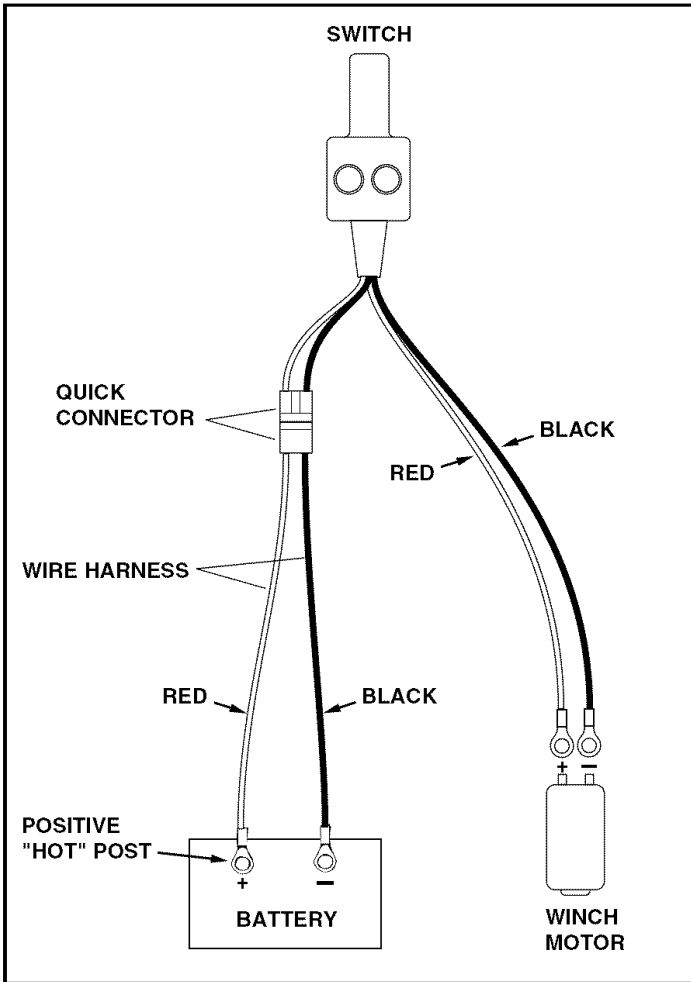

FIGURE 7
1. Connect the wires in the drawbar to the winch terminals, securing red to positive and black to negative. See figure 7.
3. Connect the wire harness to the vehicle battery. Secure the red wire to the positive terminal and the black wire to the negative terminal. See figure 7.